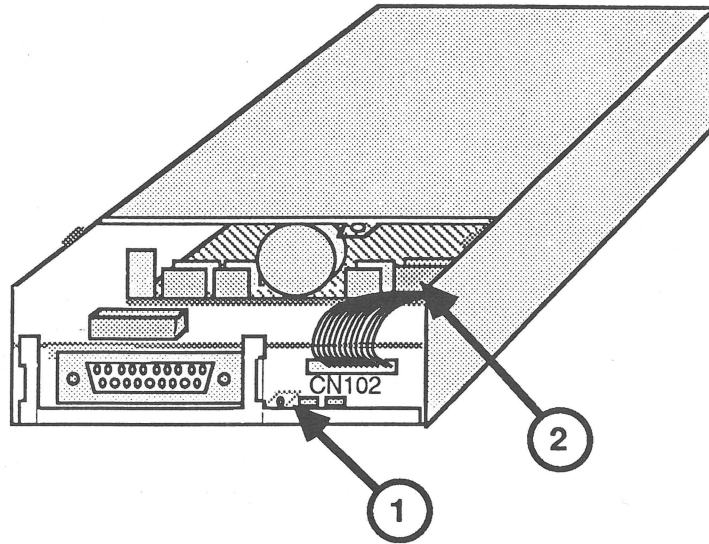

FIGURE 7
2. Disconnect CN102 from the drive mechanism (Figure 7, #2).
3. Remove the screw that secures the daisy chain interface board to the outer metal shield (Figure 7, #1).
1. Tuck the back edge of the daisy chain interface board under the holding tabs on the outer metal shield (Figure 7, #2).
2. Slide the board to the left as far as it will go and replace the screw (Figure 7, #1).
4. Reconnect CN102 to the drive mechanism (Figure 7, #2).